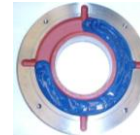

Figure 6.3: Outer bearing cap
- Fill up to $\frac{3}{4}$ of the inner and outer bearing cap deposits with the recommended grease (Figure 6.3) and lubricate the rolling bearing with enough grease before assembling it;